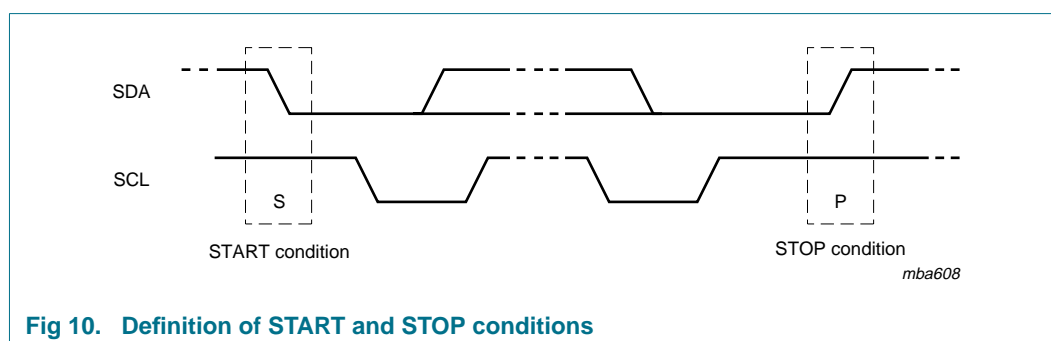

Fig 10. Definition of START and STOP conditions
Both data and clock lines remain HIGH when the bus is not busy. A HIGH-to-LOW transition of the data line while the clock is HIGH is defined as the START condition (S). A LOW-to-HIGH transition of the data line while the clock is HIGH is defined as the STOP condition (P) (see Figure 10).